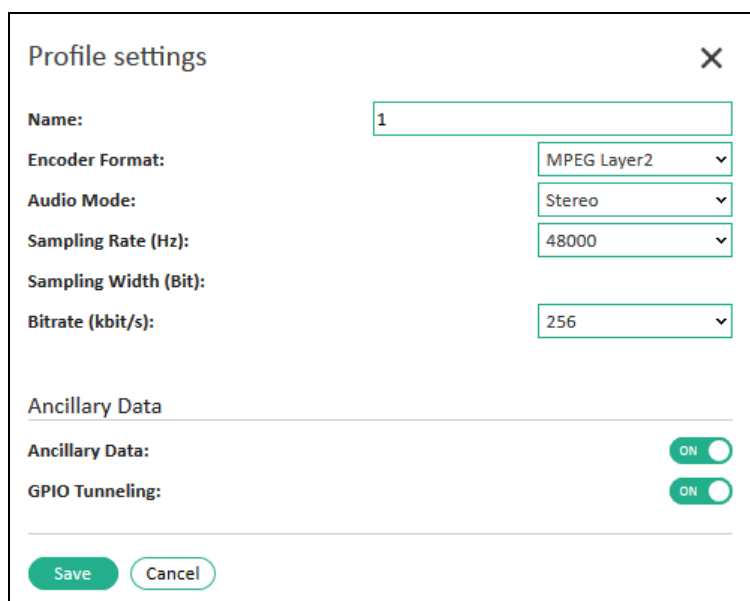

Figure 23: Codec profile settings
2. Click “Edit” to set up the new profile (see Figure 23 on page 41).